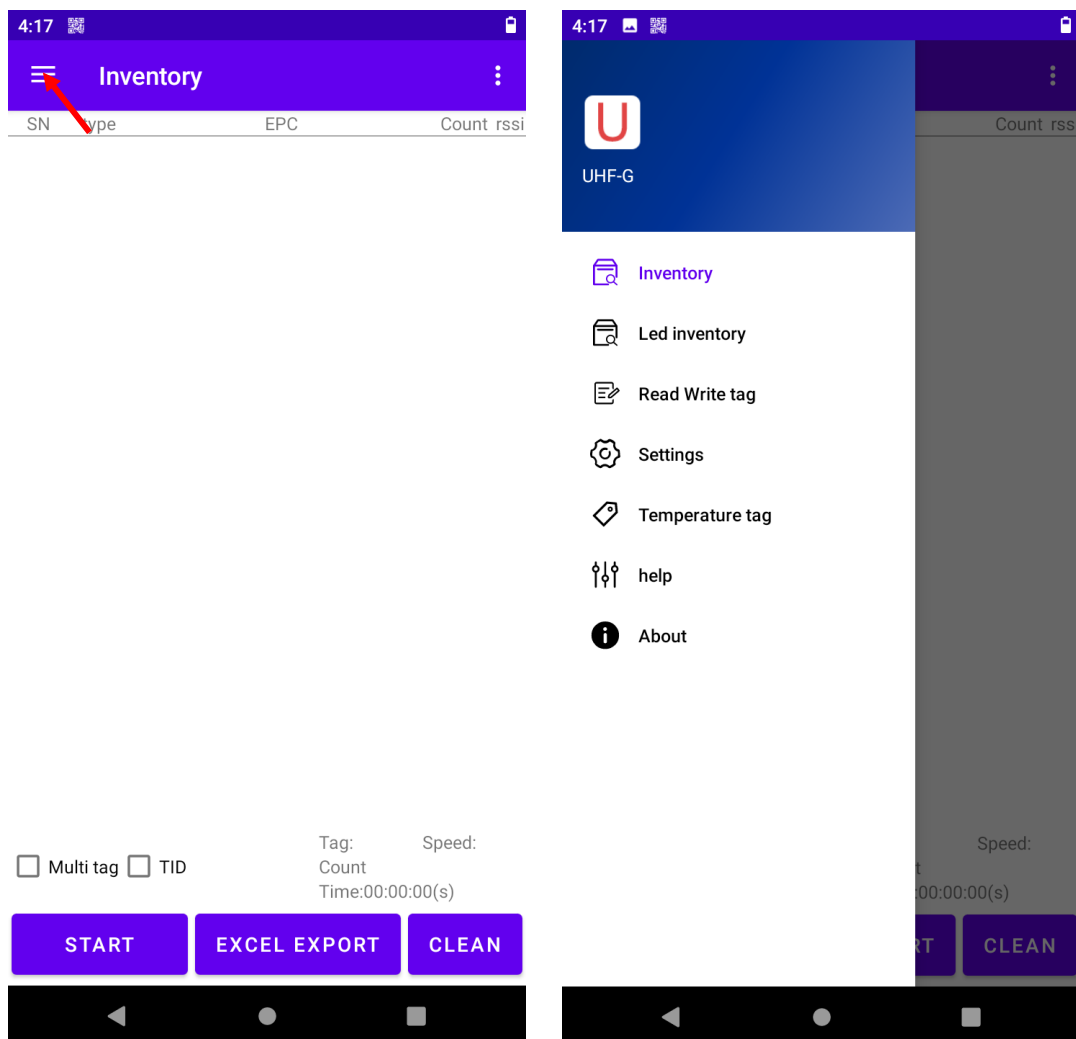

Figure 4-1
- 2) Clicking the UHF icon  or , will bring up a menu containing options such as disk storage, LED tag storage, tag reading and writing, settings, temperature tags, help, and about. Selecting any option will take you to the corresponding interface, as shown in Figures 4-1 and 4-2.